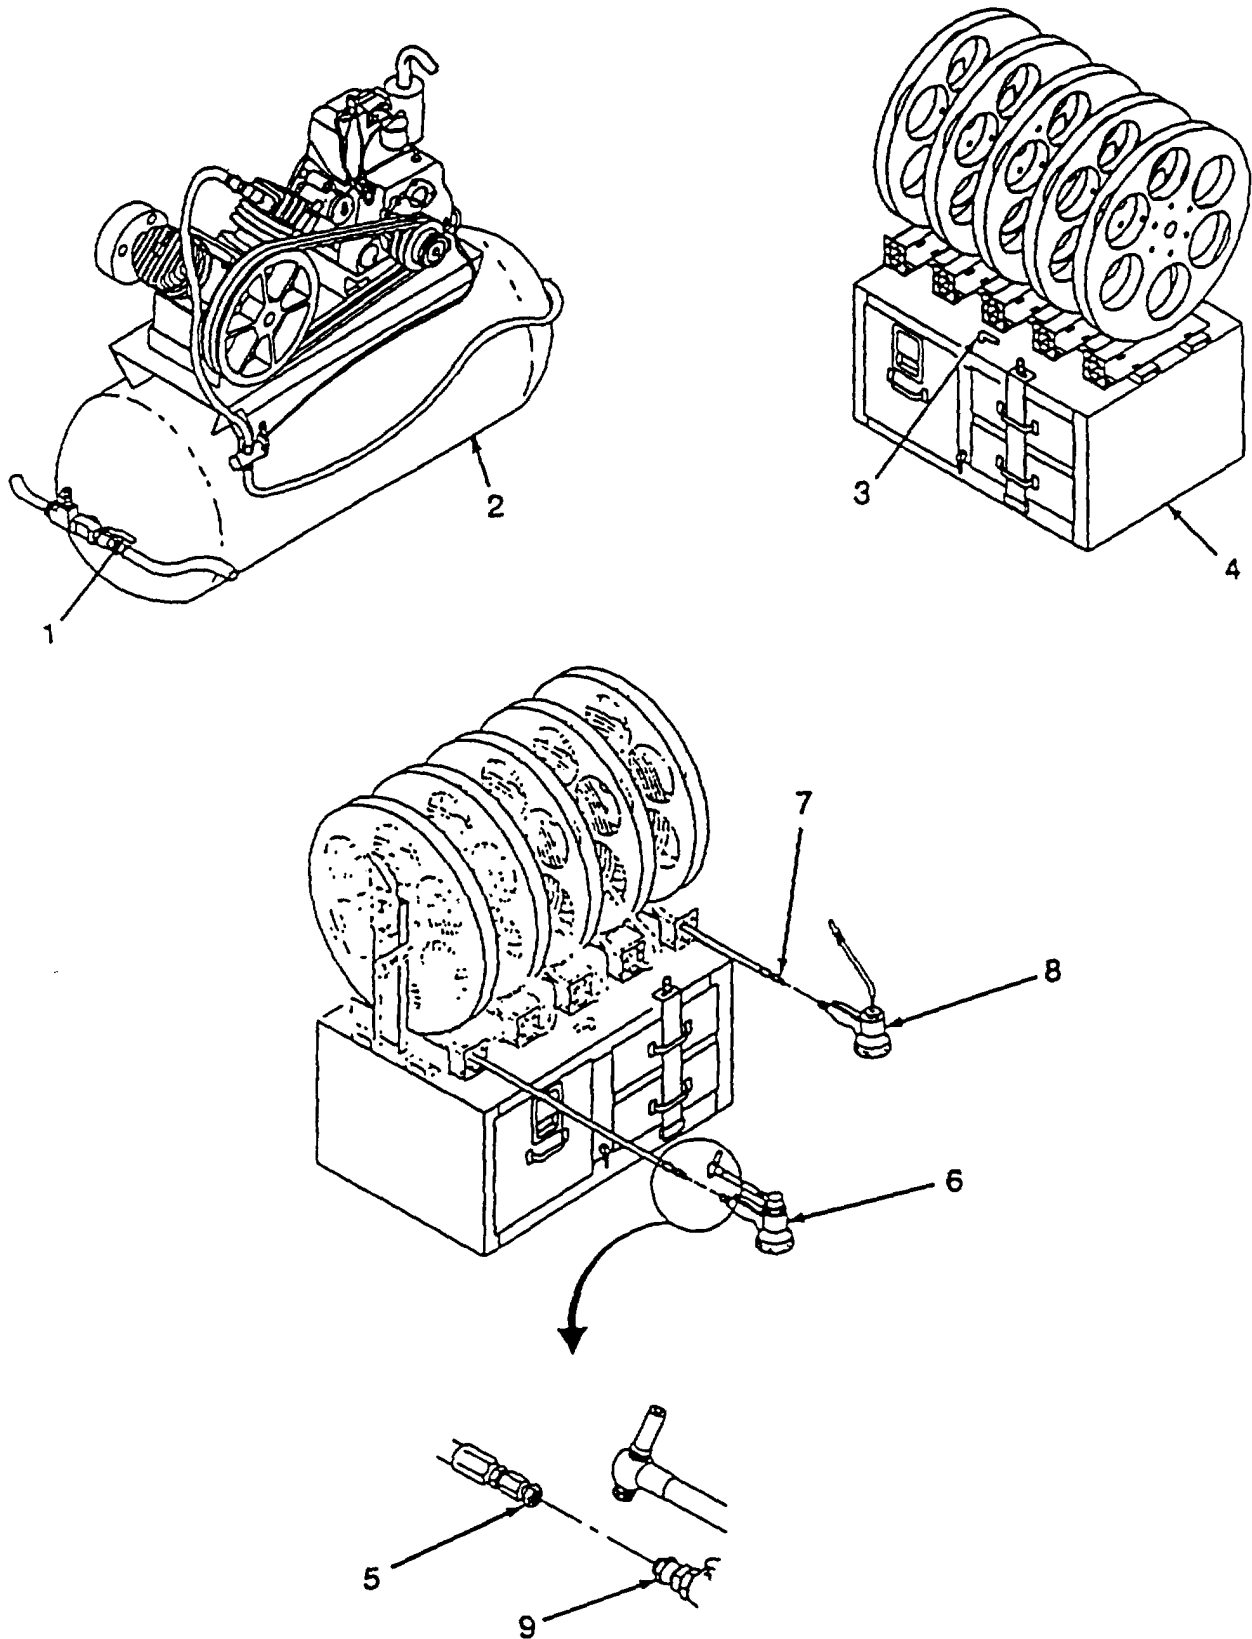

Figure 4-12. Gear Lube and Oil Dispensers
- a. Removal. (Refer to Figure 4-12.)